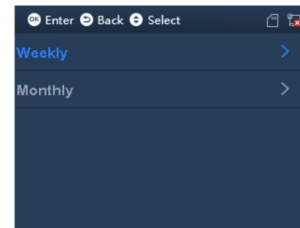

Figure 2-13
Select Cycle Type, click ③, see Figure 2-13